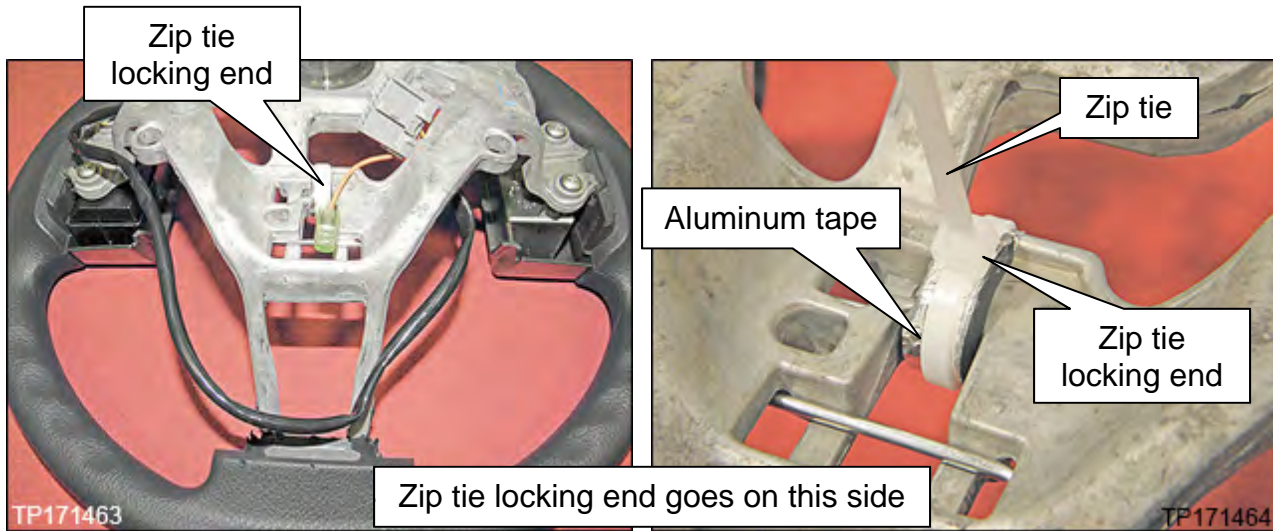

Figure 14
14. Install the zip tie from the kit over the aluminum tape as shown in Figure 14.